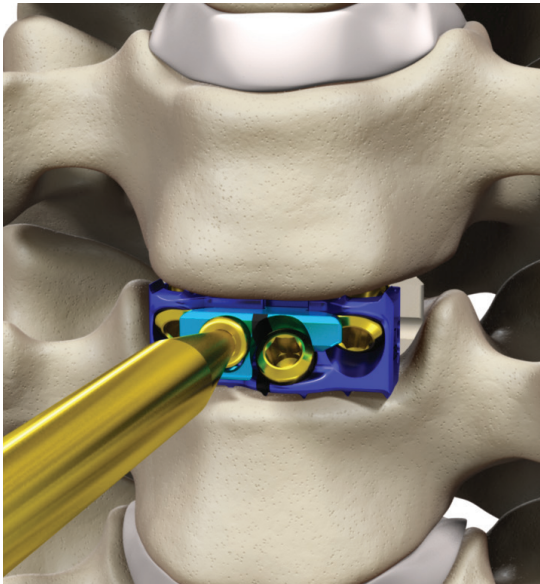

Figure 76
- Once all screws are fully seated within the plate, assemble the gold locking cap driver and torque limiting handle. Insert the locking cap driver into the gold locking screw. Ensure that the tip of the driver is fully seated in the screw pocket and that the driver is on axis to the locking screw (Figure 76).